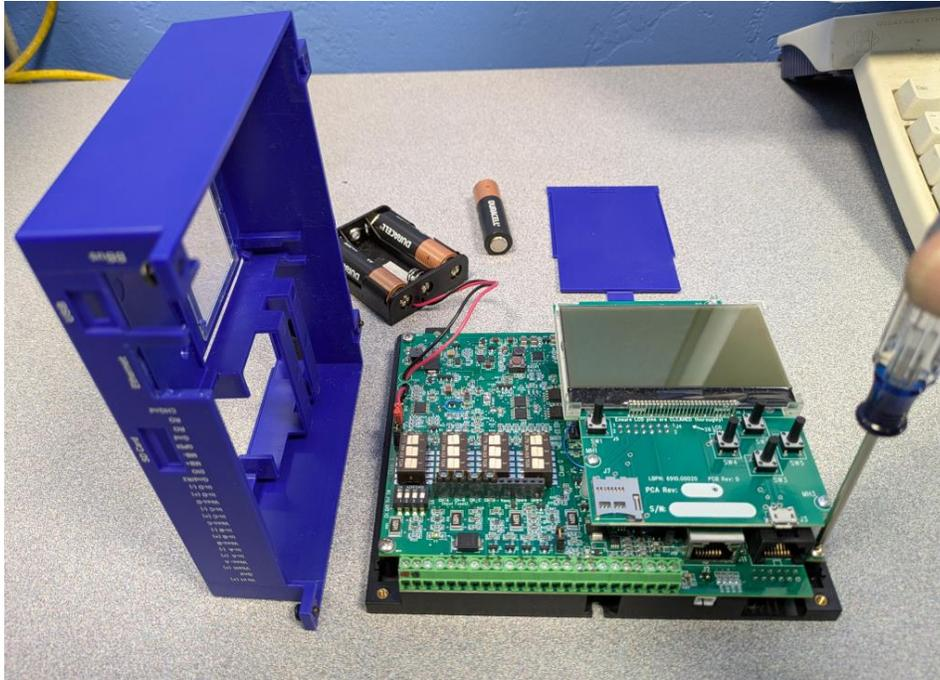

Fig 14; One AA cell removed and Top removed
7. Gently set the Top along side the unit without putting strain on any wires (Fig 14)
8. Carefully remove the four corner screws securing the circuit board assembly to the black plastic base. Take care that the screwdriver tip does not slip and gouge the circuit board or any components. (Fig 14)